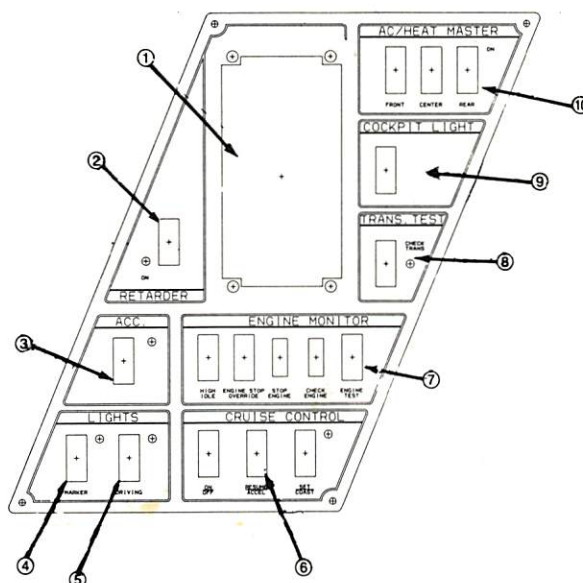

Figure 2-5. Shifter Panel
① **TRANSMISSION SHIFT SELECTOR** — Figure 2-5 shows the selector for the 8V92 engine. This is the push button shift selector made available with the Allison Transmission Electronic Control (ATEC). With ATEC, shifts are more accurate and positive than those obtainable with conventional hydraulic controls. ATEC makes it possible to precisely match the optimum fuel economy/shift curve relationship. Only four speeds are required with this system. See Diesel Engine/Transmission Operation later in this section for detailed description.
② **RETARDER Switch** — Provides power to Transmission Retarder/Brake System. The adjacent indicator lights when the retarder is operational. Use of RETARDER HAND CONTROL will be covered later in this chapter.
③ **ACCESSORY Position** — These blank positions may be used for the installation of additional switches and indicator lights for customer add on equipment.